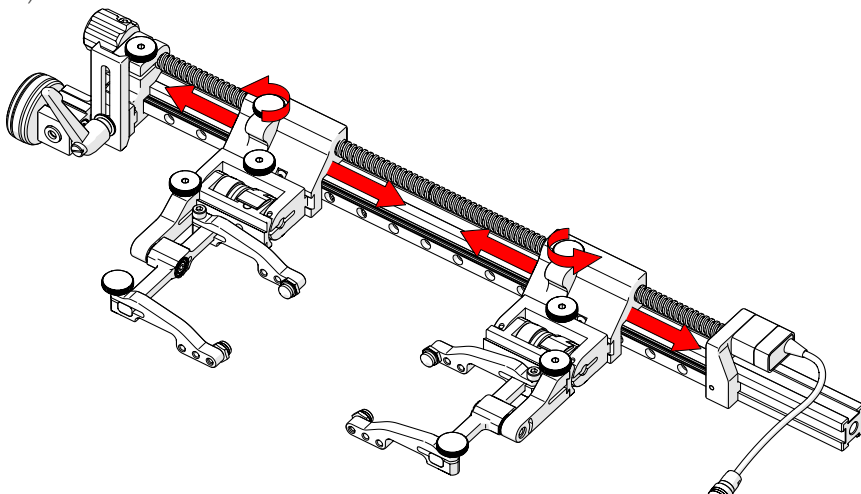

Fig. 154 - Backing plate positioning
2. The knob on the carriage allows for adjustment of the probe holders on the leadscrew (Fig. 154).